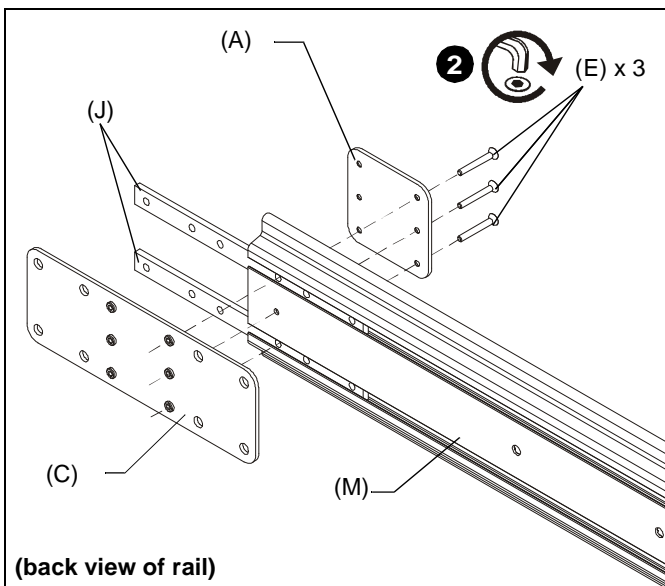

Figure 2
2. Secure connect bracket (A) to front of mounting rail (M) using three 10-24 x 1-1/2" flat head cap screws (E) fastened through one side of connect bracket, mounting rail, tie bars (J) and into connector plate (C). (See Figure 2)